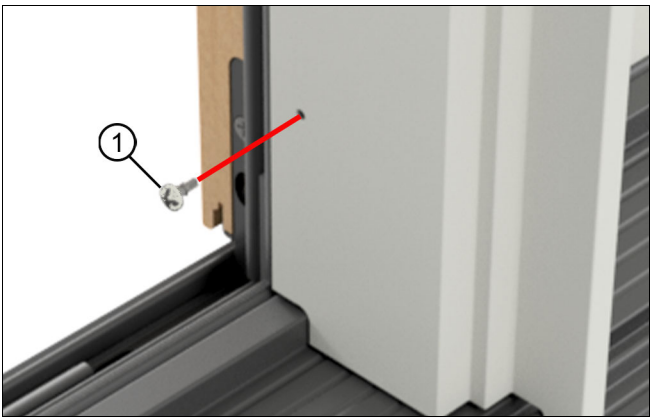

Figure 44
22. Fasten at the top and bottom with the provided #8 x 3/8" pan head, color matched, self tapping screws into the mull base. The holes in the cover are pre-drilled. See Figure 43 and Figure 44.